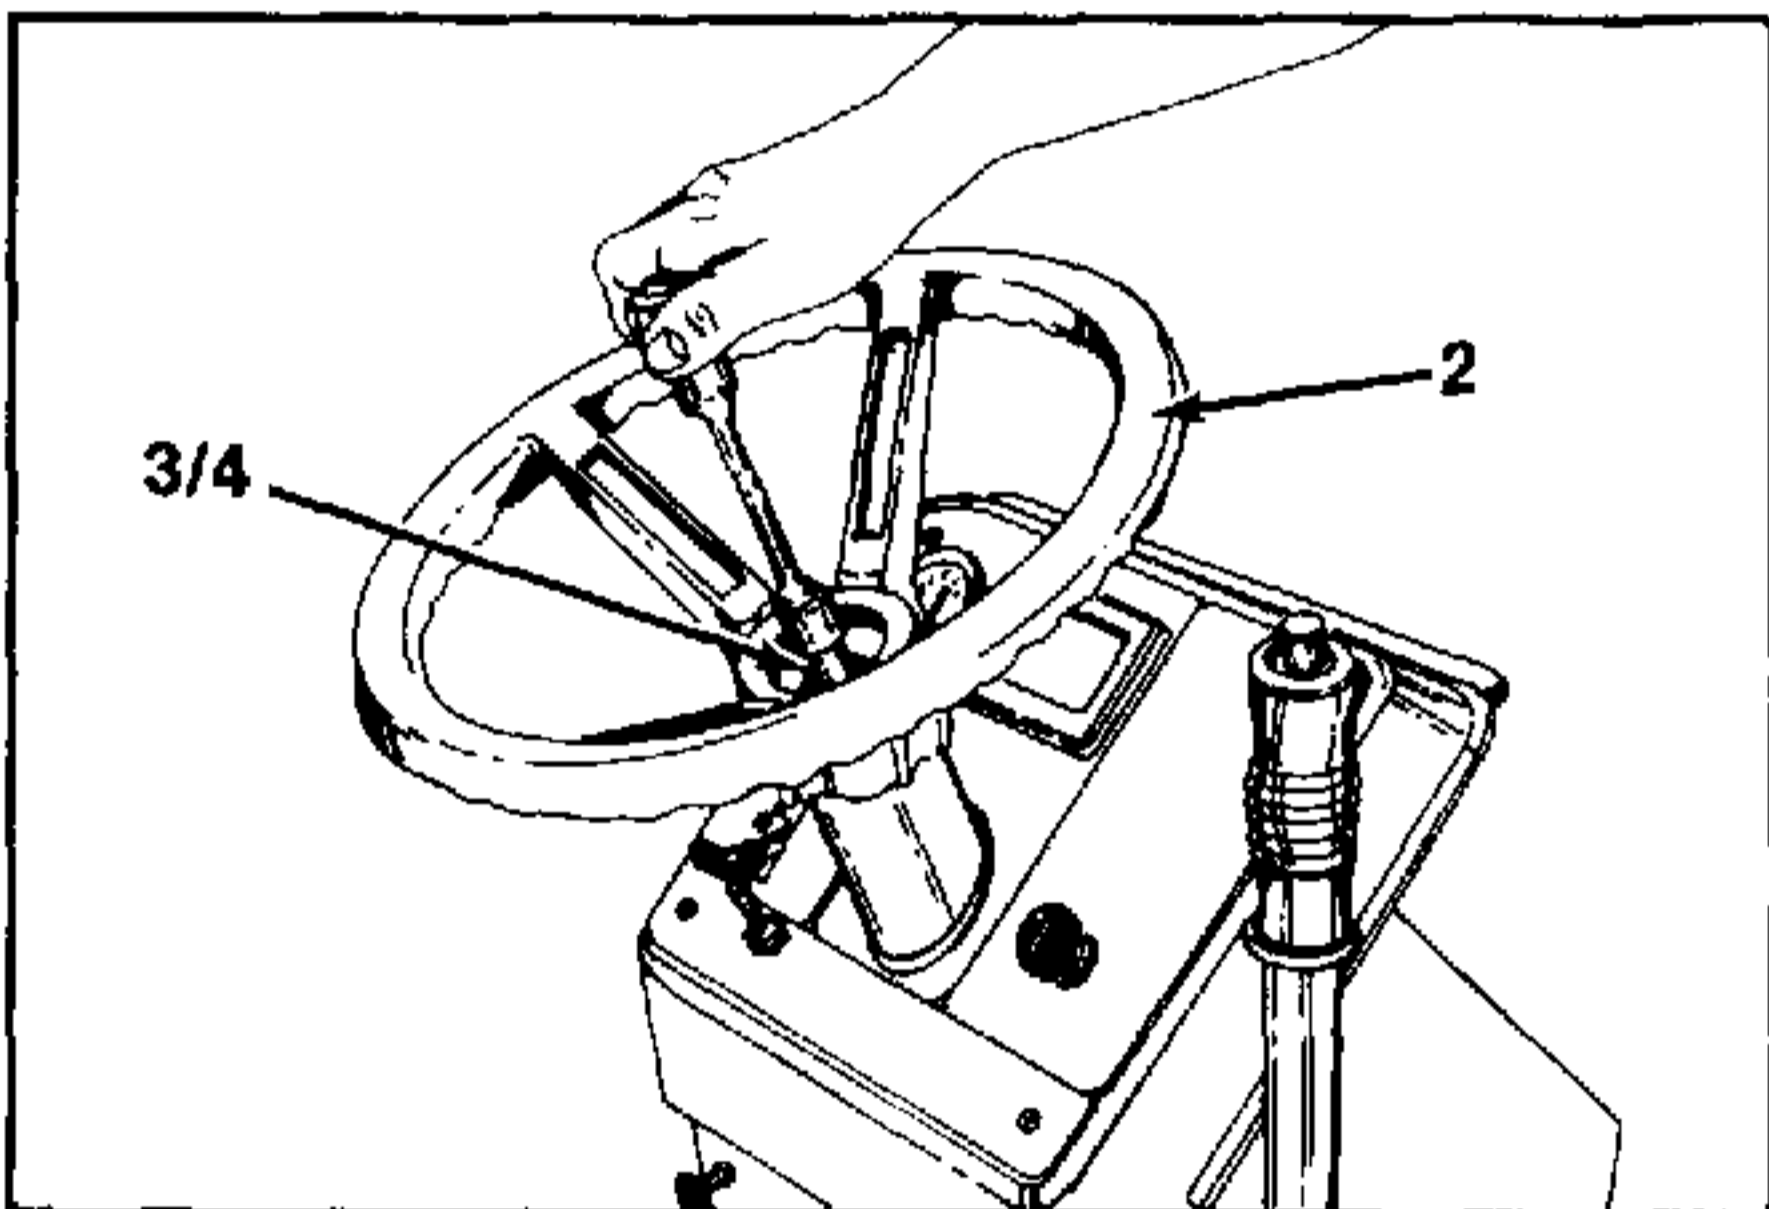

FIGURE 2.
2. Remove the steering wheel by removing the hex lock nut (Ref. 3) and Belleville washer (Ref. 4). See figure 2. Pull and tap steering wheel upwards to remove. A hammer may be required.